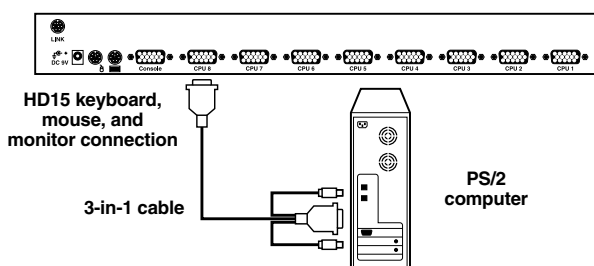

Figure 3-3. PS/2 computer connections.
1. Connect the ServSwitch 3-in-1 cable PS/2 (EHN70001-0006, EHN70001-0010, EHN9000P-0015, or EHN9000P-0030) or 2-in-1 USB cable (EHN9000U-0006, EHN9000U-10, or EHN9000U-15) to the computer's 6-pin mini-DIN or USB keyboard and mouse ports, and the computer's HD15 port. See Figures 3-3 and 3-4.